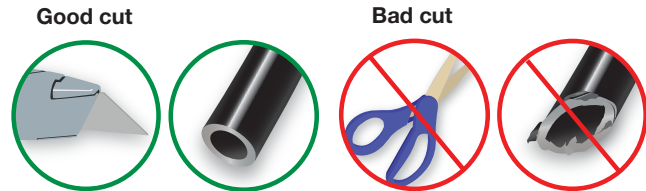

Fig. 25
1. Cut the air line in half. Make clean, square cuts with a razor blade or hose cutter (Fig. 25). Do not use scissors or wire cutters.